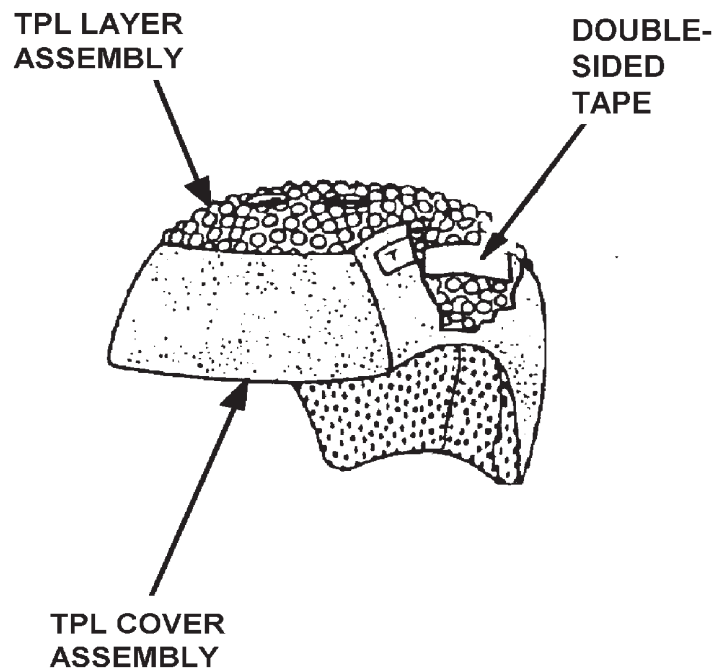

Figure 2-1. TPL Cover Assembly Secured to TPL Layer Assembly
2. Ensure that the TPL cover assembly is secured to the TPL preformed layer assembly using two approximately 1-inch x 2-inch pieces of double-sided tape (one on each side) as shown in Figure 2-1.